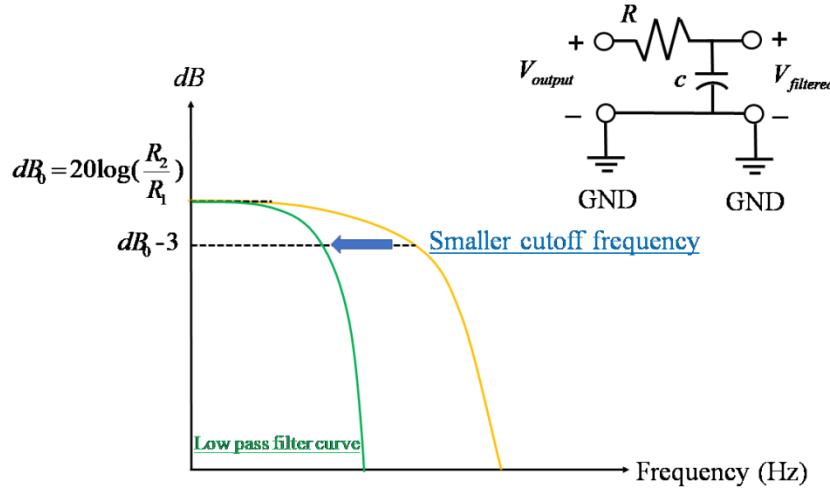

Figure 3.5. Decibel (dB) to frequency curve for inverting circuit with a low pass filter (not a real scale).
Derivation for formula (28) will not be included in this manual but is listed in reference [9] and [10]. The low pass filter diagram which reveals its connection with inverting circuit output and its effect on the original dB curve are both shown in **Fig. 3.5**.